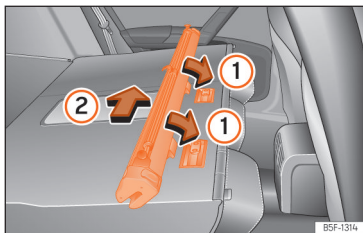

Fig. 186 Assembling the net partition in the rear seat backrests.
- Place the net casing in the rail slots in the direction of the arrows >>> **Fig. 186** ①.
- Push the casing towards the left side of the vehicle in the direction of arrow >>> **Fig. 186** ② and as far as it will go.
- Pull the net casing out approximately 5 cm in the opposite direction to the arrow >>> **Fig. 186** ②.
- Remove the casing from the rails by pulling in the opposite direction to the arrows >>> **Fig. 186** ①.